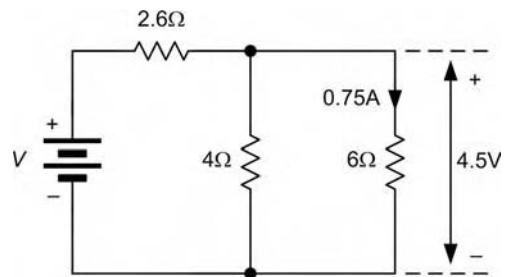

Figure 5.34 Using Ohm's law to find the voltage dropped across the 6 Ω resistor.
- (a) Once again, we need to solve this problem in several small stages. Since we know the current flowing in the 6 Ω resistor, we will start by finding the voltage dropped across it using Ohm's law (Figure 5.34):